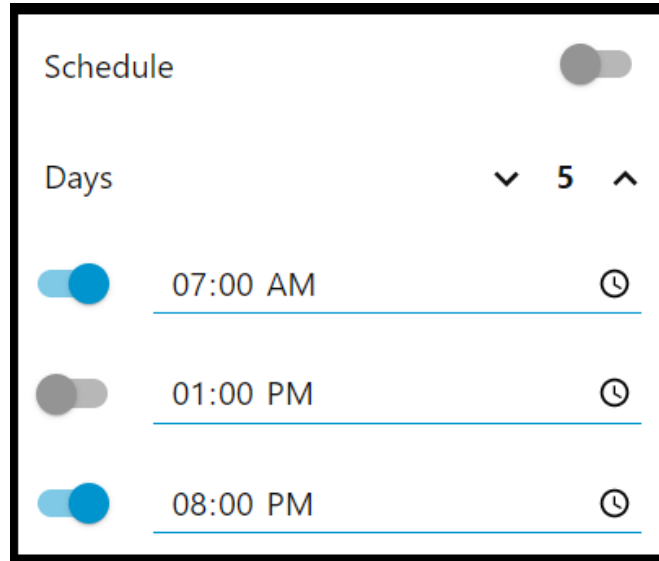

Figure 1: Scheduler Group
- Figure 1 displays a sample group.